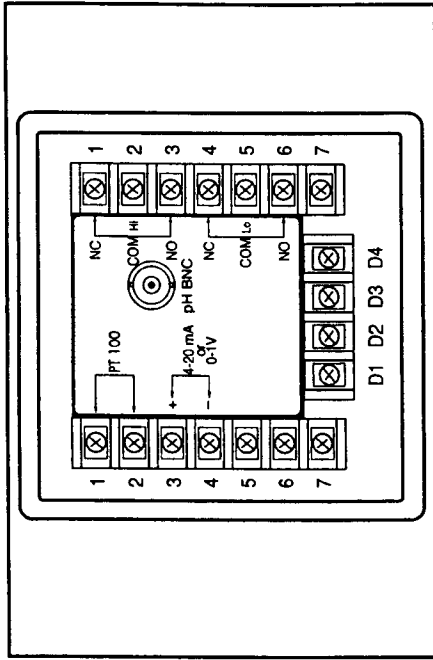

Figure 2-3. Rear Panel Connections
Connect ac power to the proper terminals (refer to Figure 2-3). "D3" is hot, "D2" is neutral, and "D1" is ground. For 220 Vac operation, "D4" is hot, "D2" is neutral, and "D1" is ground.
2. If using Automatic Temperature Compensation (ATC), connect the 100 ohm Pt RTD leads of the temperature probe to Terminals 1 and 2 (no polarity - see Figure 2-3).
1. Connect the combination pH electrode and temperature compensation probe (if using ATC) to the meter (refer to Figure 2-3).